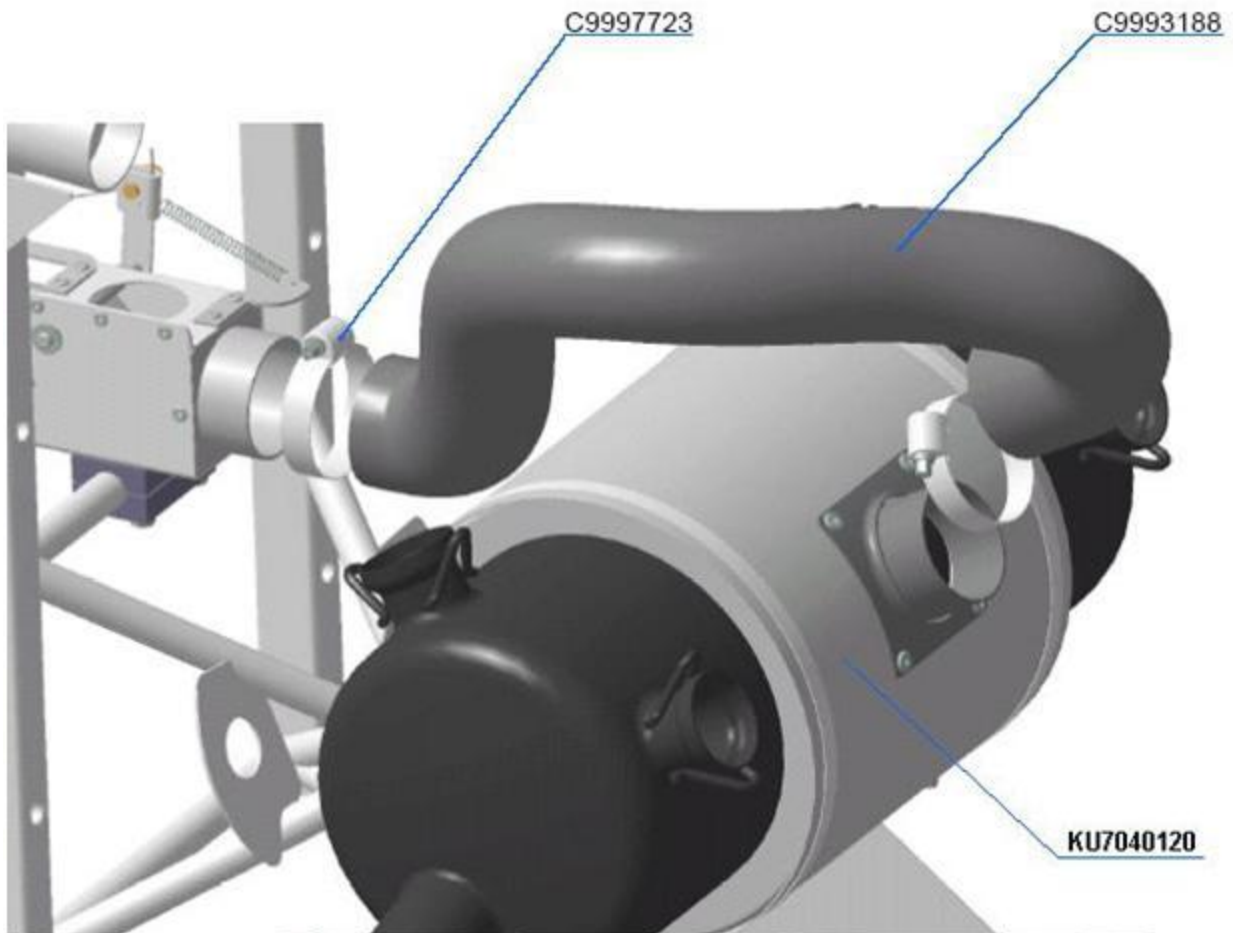

Fig. 9
- b. To replace a damaged hose in the engine compartment C9993188 (AERODUCT tube CEET-7 1-3/4 ID), Fig. 9, do the following:
- a. Unscrew the bolt by a cross-screwdriver or wrench with header 7 and release the clamp C9997723 Clamp 40-60 that secures the hose C9993188 (AERODUCT tube CEET-7 1-3/4 ID) near the heating Cabin heater choke KA7040200. Fig. 9.
- g. Unscrew the bolt by a cross-screwdriver or wrench with header 7 and release the clamp C9997723 Clamp 40-60 that secures the hose C9993188 (AERODUCT tube CEET-7 1-3/4 ID) near the heater KU7040120 (Air heater) in the engine compartment. Fig. 9.
- h. Disconnect the hose C9993188 (AERODUCT tube CEET-7 1-3/4 ID) from the heater KU7040120 (Air heater). Fig. 9.